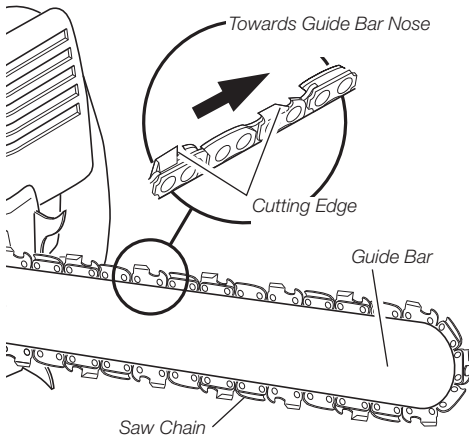

Figure 22 - Correct Chain Direction
3. Place saw chain around sprocket, along top groove of guide bar, and around guide bar nose (see Figure 22). **Note:** Make sure cutting edges of saw chain are facing in right direction. Position chain so cutting edges on top of guide bar face guide bar nose (see Figure 22 and indicator on side cover of saw).